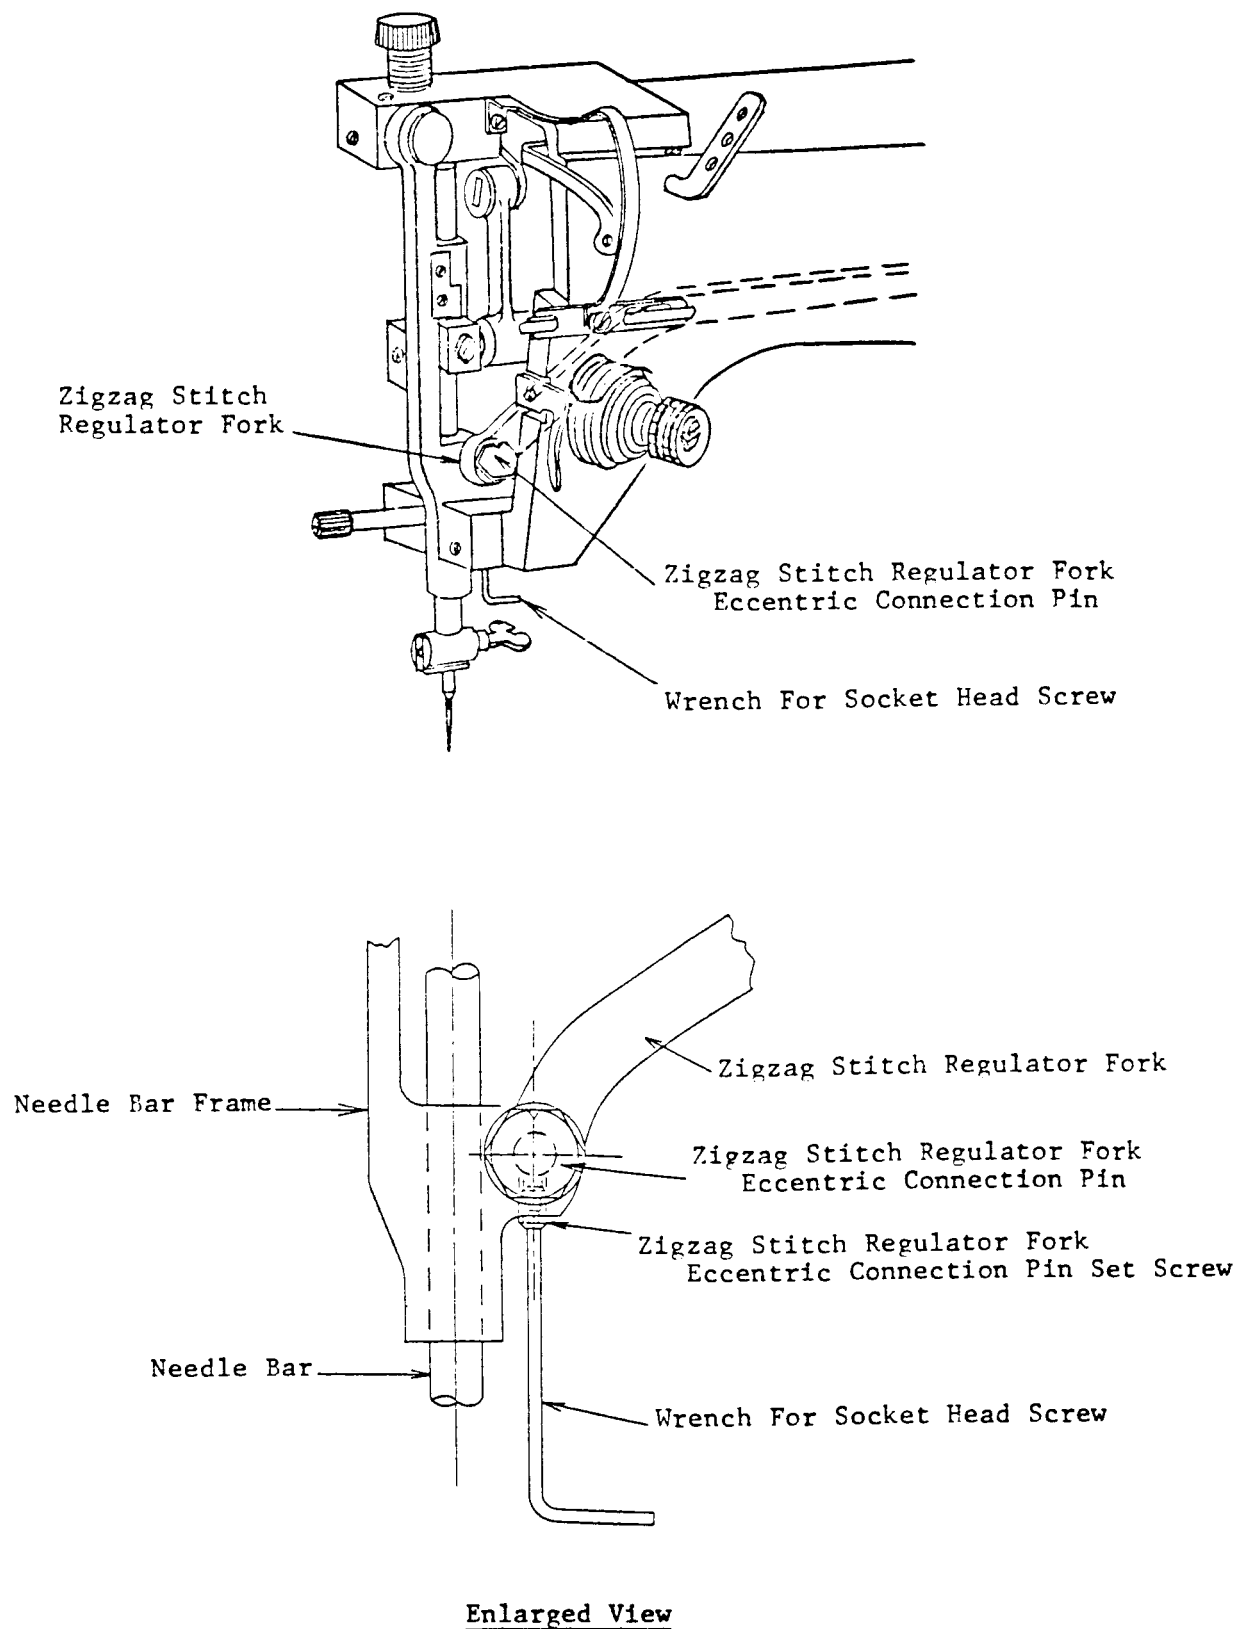

Fig. 15
7. If needle is not properly centered in the needle hole, check whether the notch on the hexagon head of the zigzag stitch regulator fork eccentric connection pin (Fig. 15) is located at top, then loosen bight and needle position block set screw and adjust bight and needle position block to the left or right as required. Securely tighten the set screw.
8. Turn machine pulley and check existence of sidewise movement of needle. If it is found necessary to make readjustment, it should be made as instructed in item 5, page 9.
3. If the needle location in relation to the needle hole in throat plate need to be adjusted, loosen zigzag stitch regulator fork eccentric connection pin set screw (Fig. 15) and turn zigzag stitch regulator fork eccentric connection pin, as required, to obtain correct needle location.